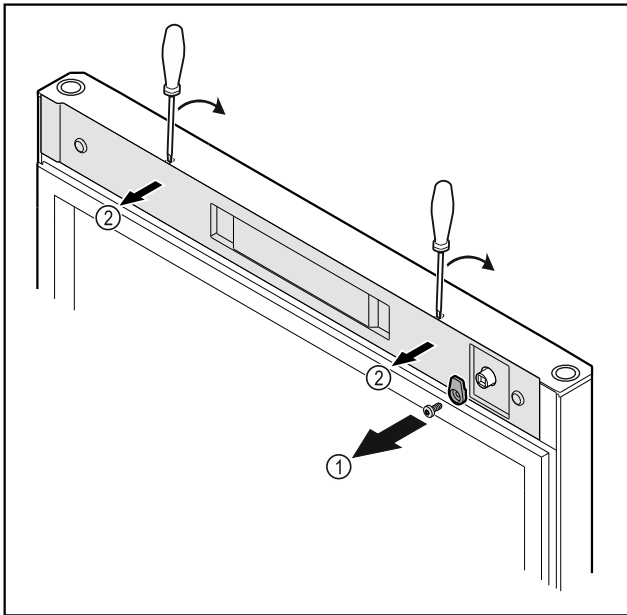

Fig. 52
- ▶ Unscrew the door latch Fig. 52 (1).
- ▶ Unlatch the cover Fig. 52 (2) with a small screwdriver and remove it.